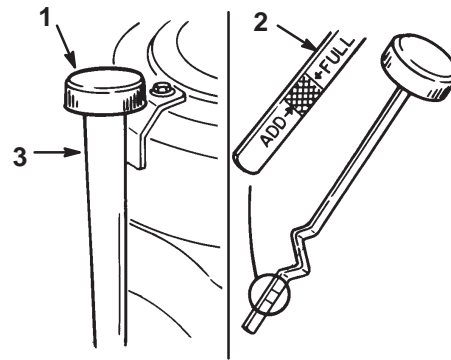

Figure 24
2. Clean around the oil dipstick (Fig. 24) so dirt cannot fall into the filler hole and damage the engine.
3. Unscrew the oil dipstick and wipe the metal end clean (Fig. 24).
4. Slide the oil dipstick fully into the filler tube, do not thread onto tube (Fig. 24). Pull the dipstick out and look at the metal end. If oil level is low, slowly pour only enough oil into the filler tube to raise the level to the full mark.
5. Slowly pour approximately 80% of the specified amount of oil specified, page 22, into the filler tube (Fig. 24). Now check the oil level; refer to Checking the Engine Oil Level, page 22. Slowly add additional oil to bring to full mark on dipstick.